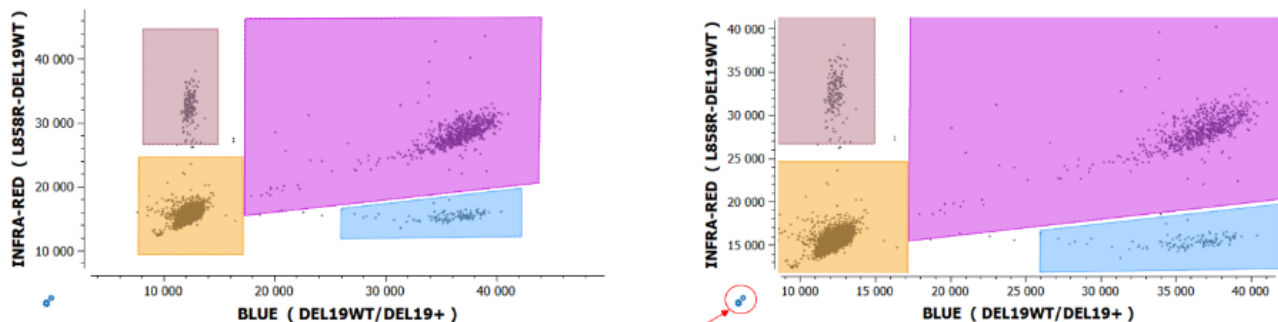

Figure 4: Crystal Miner software 2D dot plot for data visualization and analysis.
2. Go to the menu “ANALYZE DATA > Plots & Populations > 2D dot plot”. To adjust the axis, double click on the graph or click on the blue gear below the 2D graph (indicated by the red arrow in Figure 4 below) to manually enter the desired value.